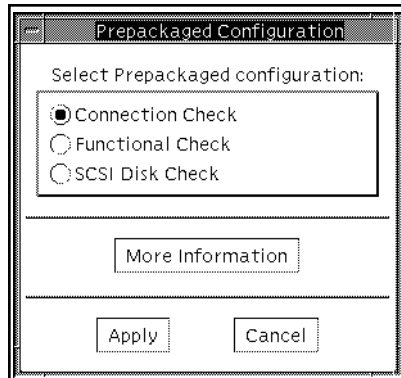

FIGURE 3-10 Selecting the type of Check to Run under Prepackaged Configuration
- If you checked “Use prepackaged configuration,” a screen is displayed noting the types of checks that you can run (see FIGURE 3-10).